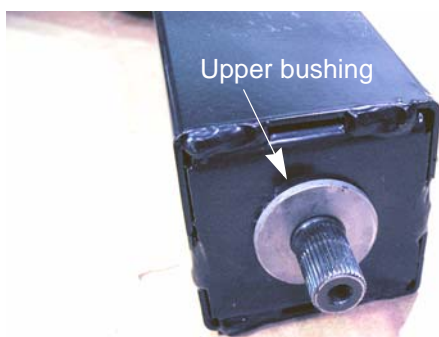

Figure 6.107
8. Install the upper bushing into the top side of the steering column. See Figure 6.107.